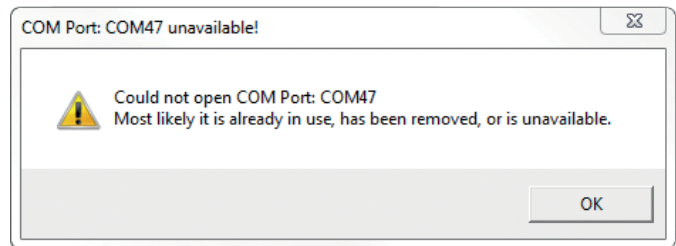
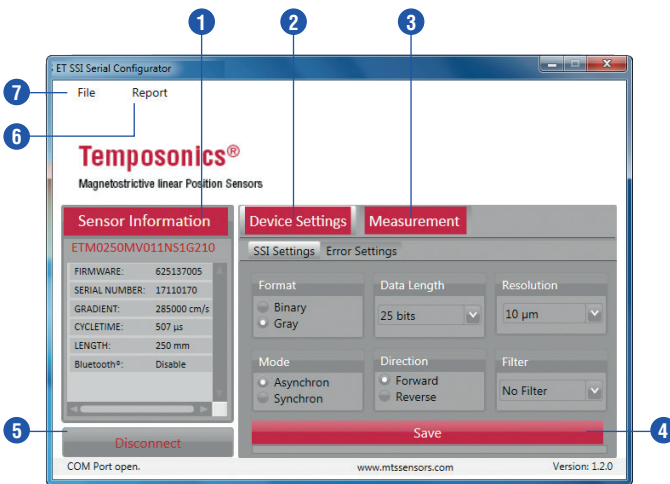

Fig. 27: Error message COM Port is not available
Fig. 29: Temposonics ET SSI Serial Configurator, SSI Settings
After starting the program MTS ET SSI Serial Configurator the software connects to the last selected COM Port and the user interface opens (Fig. 29). If the COM Port is not available an error message appears (Fig. 27).
The application will automatically restart and the user interface opens (Fig. 29).
- 1 **Sensor Information** contains the invariable sensor parameters, which were read in automatically when the sensor is connected (Fig. 29).
- 2 In the **Device Settings** menu the configurable parameters (SSI Settings, Error Settings) of the sensor can be set (Fig. 29).
- 3 The **Measurement** menu shows the current position of the magnet (Fig. 29).
- 4 The **Save** button saves any parameter changes you have made. After that the software restarts for the changes to take effect. The function **Measurement** 3 will then be available again (Fig. 29).
- 5 The button **Disconnect** breaks the connection to the COM Port and closes the software (Fig. 29).
- 6 By clicking **Report** a report document is generated to provide sensor information (Fig. 29).
- 7 The **File** menu allows the following settings (Fig. 29):
### SSI Settings (Fig. 29)